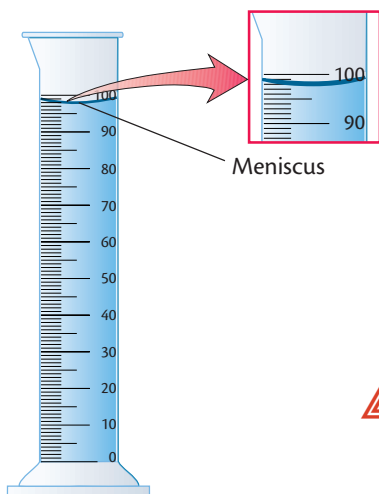

Figure 1 To find the volume of liquid in a graduated cylinder, read the scale at the bottom of the curved part of the liquid (meniscus).
2. Using a beaker, obtain approximately 100 mL (milliliters) of foul water from your teacher. Measure its volume precisely with a graduated cylinder. See Figure 1. Record the actual volume of the water sample in your data table.